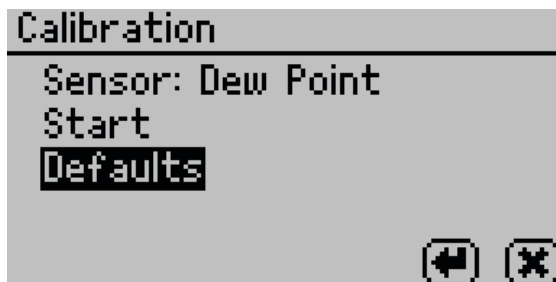

Figure 70 Calibration screen with Defaults selected
4. Select Defaults to access the Restore Factory Defaults routine (Figure 70).